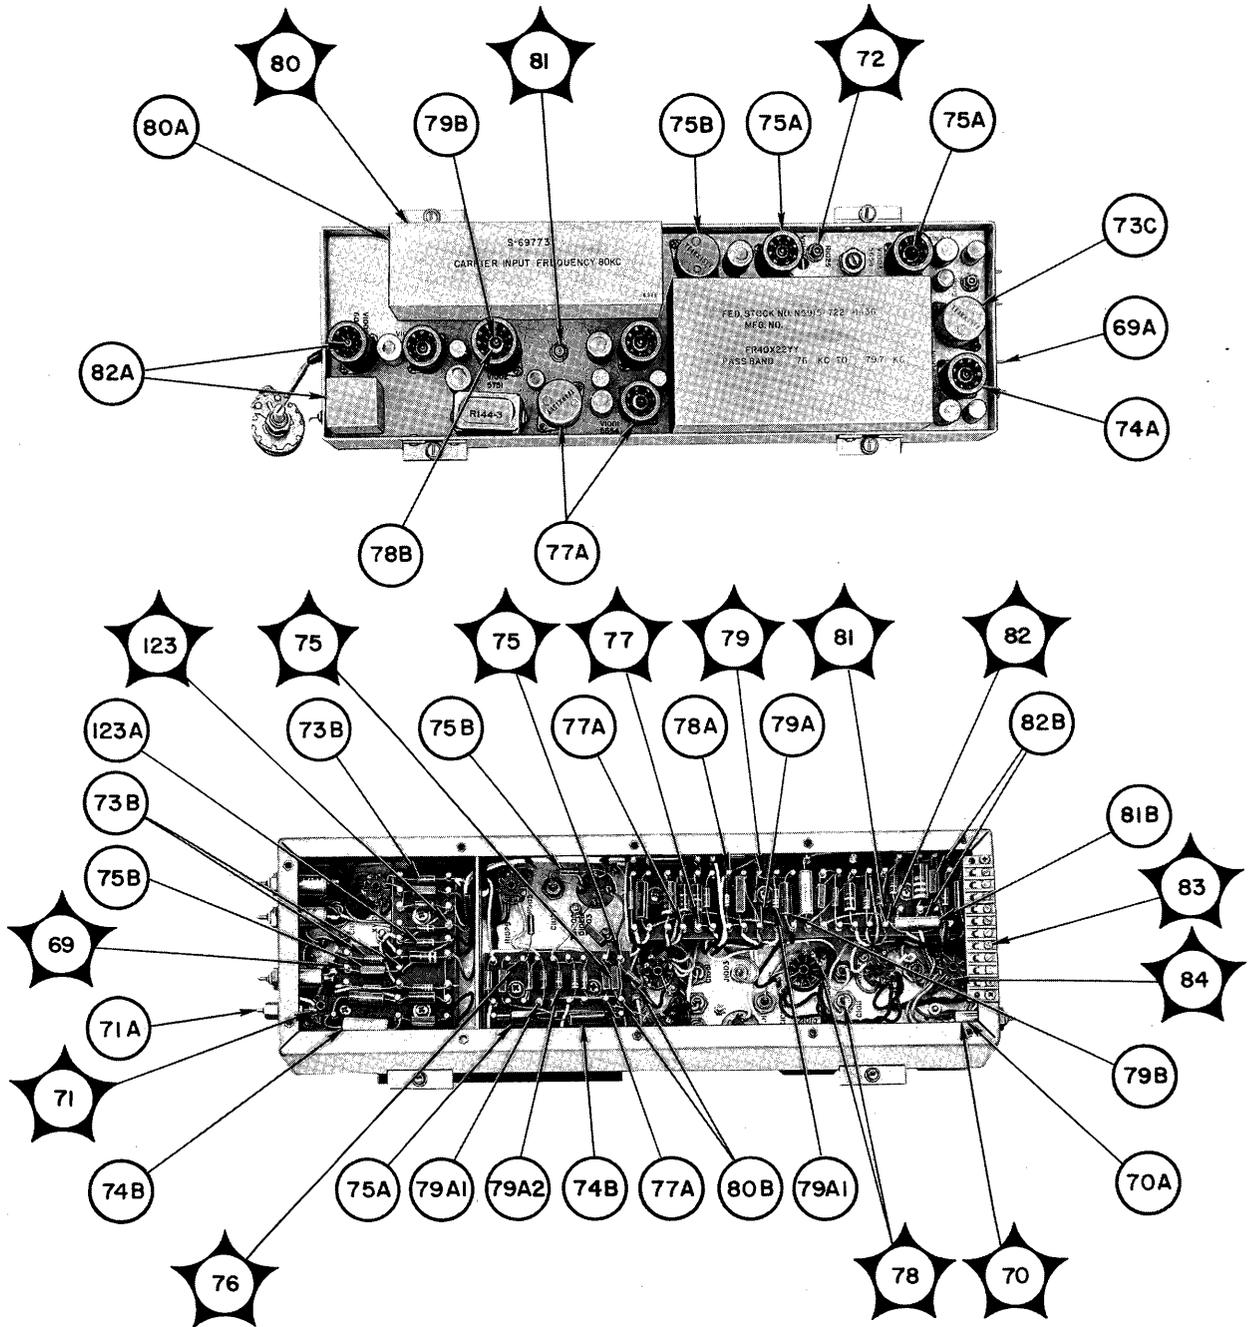

Figure 5-50. USB Detector-Amplifier, Location of Test Points
b. ACCESS.—The USB detector-amplifier is located in the lower demodulator deck. For access to the top, raise the upper demodulator deck; for access to the bottom, tilt the entire demodulator drawer. Figure 5-50 gives the location of parts.
(4) Operation of panel controls A.F. LEVEL LINE A, A.G.C. UPPER ON/S.S.B./OFF, A.G.C. UPPER SLOW/FAST, and RECEPTION.
f. USB DETECTOR-AMPLIFIER TROUBLE-SHOOTING CHART.—The test steps described in table 5-13 include measurements of initial supply voltages, and stage-by-stage signal tracing. Compare the result of each step with the information given in the NORMAL INDICATION column and follow instructions given in the NEXT STEP column. Perform the steps in the order shown. Figure 5-50 shows the location